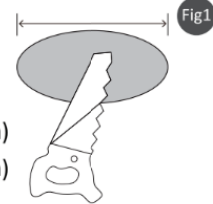

Fig1
- 1.** Turn off the power before installation. Remove the existing fixture if applicable. Determine the location and necessary hole cutout diameter using the supplied table and cut the ceiling hole with the listed approximate diameter, see Fig1.